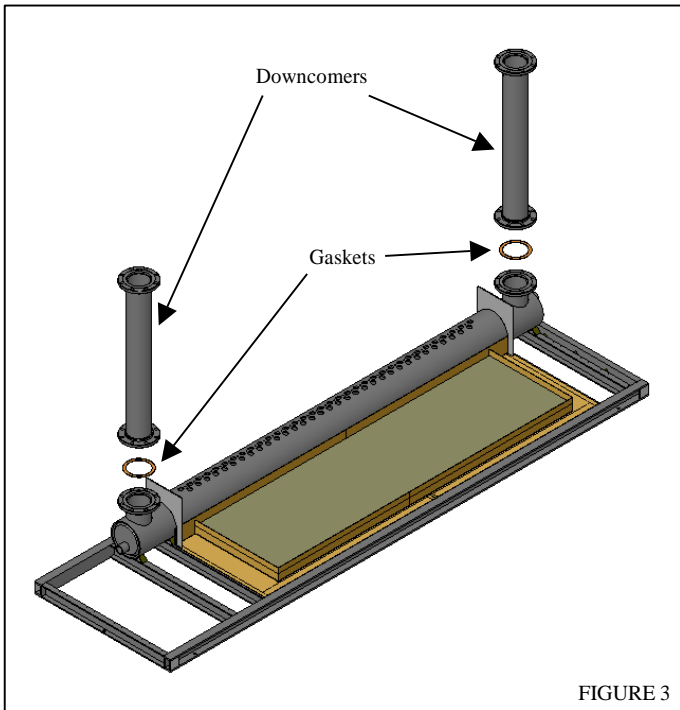

FIGURE 3
2.1 The downcomers are now ready to be attached to the lower rail. You will notice that the downcomers are color-coded. This is to help you with alignment and assures you that the downcomers are installed exactly the same way they were originally installed at the factory. Simply match the color code on the downcomer to the lower rail. **Make sure to use the flange gaskets between the flanges.** See figure 3.